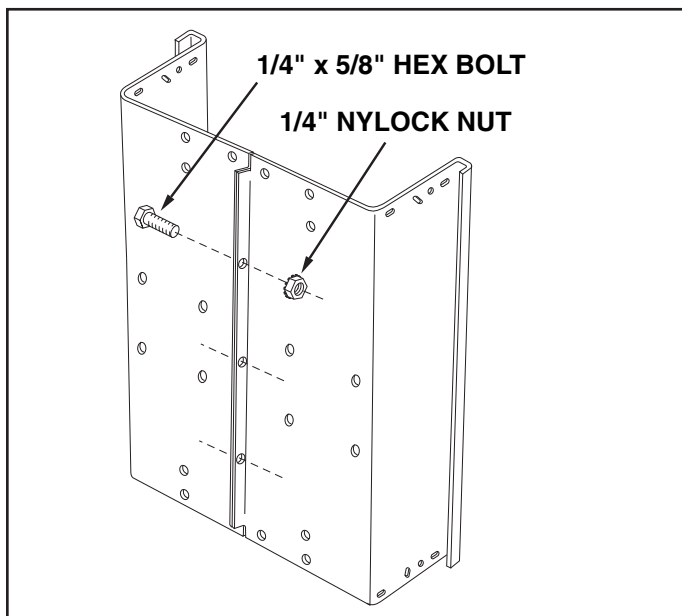
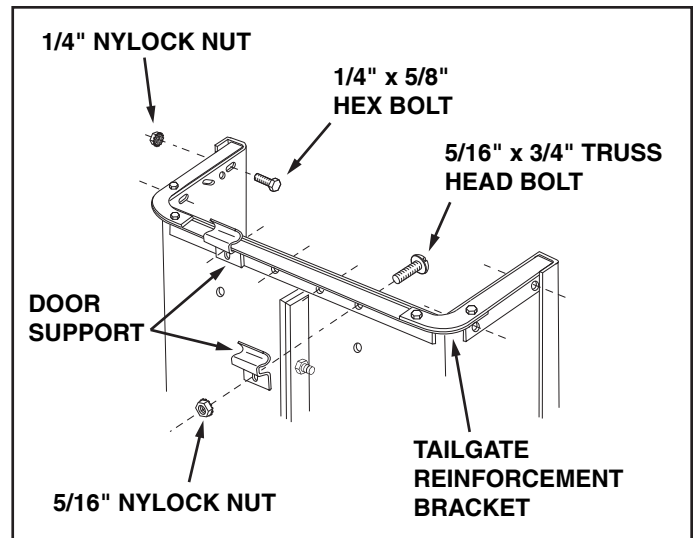

FIGURE 1
FIGURE 2
1. Place cart body halves upright on a smooth level surface such as a garage floor or a paved driveway. See figure 1.
2. Assemble cart body halves together using three 1/4" x 5/8" hex bolts and 1/4" nylock nuts as shown in figure 1. **Do not tighten yet.**
3. Fit the tailgate reinforcement bracket over the end of the cart bed. Position the two door support brackets on the bottom of the reinforcement bracket as shown in figure 2. Fasten the reinforcement bracket and the door supports to the bottom of the cart using four 5/16" x 3/4" truss head bolts and 5/16" nylock nuts. **Do not tighten yet.** See figure 2.
4. Fasten the tailgate reinforcement bracket to the sides of the cart body using four 1/4" x 5/8" hex bolts and 1/4" nylock nuts. See figure 2. **Do not tighten yet.**
5. Pull the cart body halves together. **Tighten** the four truss head bolts in figure 2. **Tighten** the four hex bolts in figure 2. **Tighten** the three hex bolts in figure 1, keeping the bottom aligned and pulled together.